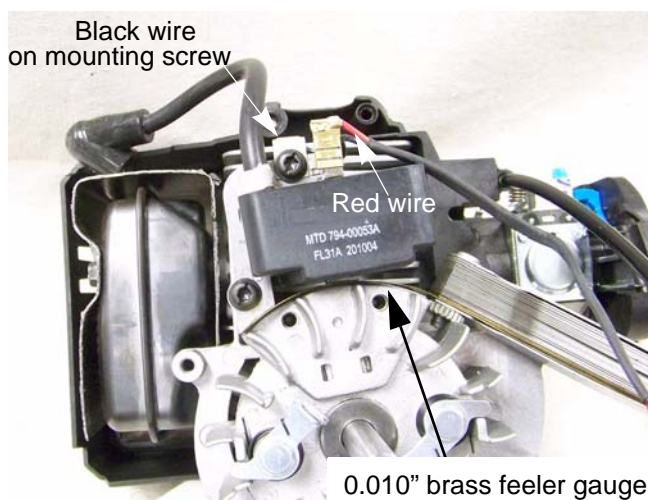

Figure 4.6
2. Disconnect the red wire from the module. See Figure 4.6.
NOTE: Make sure the black wire is on the proper mounting screw. See Figure 4.6.
6. Place a non-magnetic, 0.010" feeler gauge on the flywheel magnets and rotate the flywheel until the magnets line up with the module. Let the magnets draw the module against the flywheel with the feeler gauge trapped between them. See Figure 4.6.